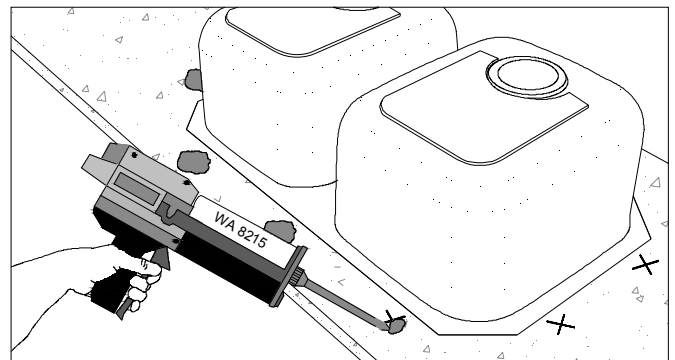

Figure 6C
- Apply ample WA 8215 where base plates were marked. (FIG. 6C)